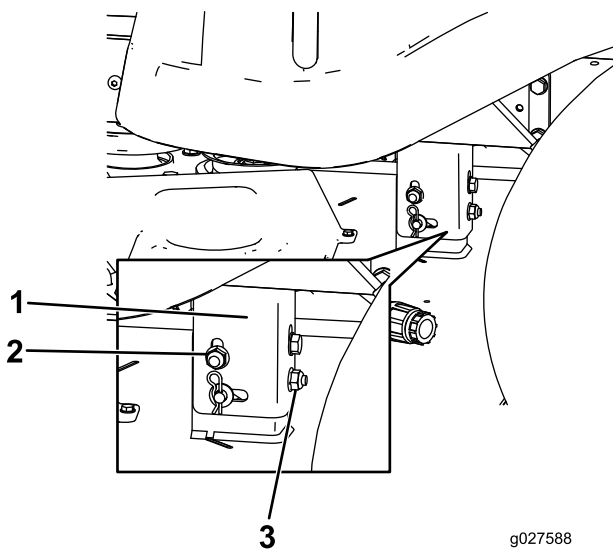

Figure 60
8. Raise or lower the left side of the mower deck by rotating the rear nut (Figure 60).
Note: Rotate the rear nut clockwise to raise the mower deck; rotate the rear nut counter-clockwise to lower the mower deck (Figure 60).